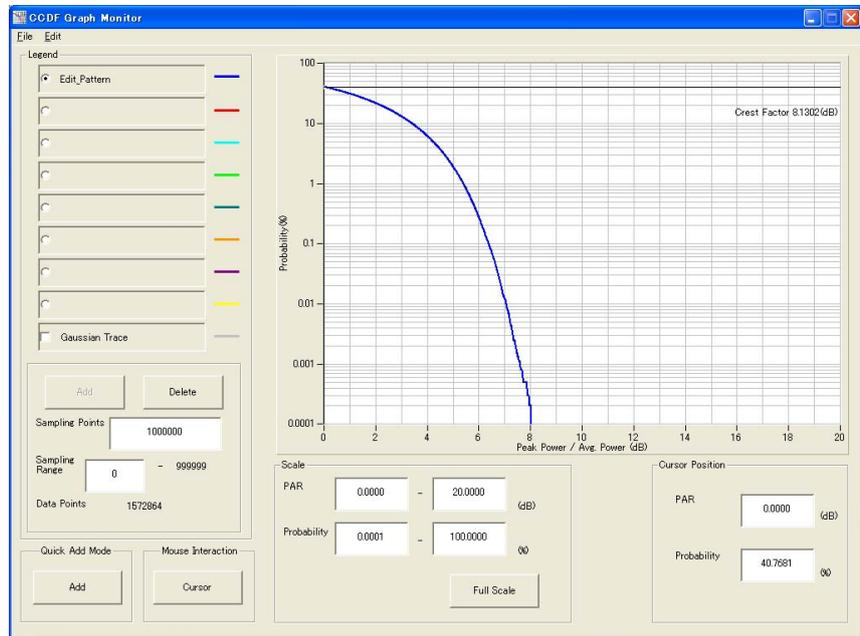

Figure 3.2.4-1 CCDF Graph Monitor screen
2. Select **[CCDF]** from the **[Simulation]** menu or click the  tool button. The CCDF Graph Monitor screen shown in Figure 3.2.4-1 is displayed with the trace of the generated waveform pattern.